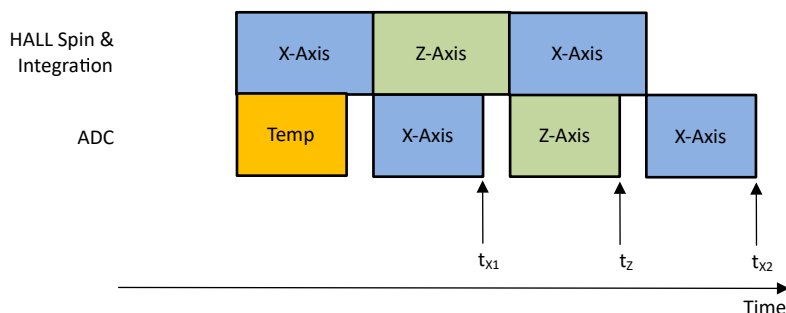

Figure 8-3. XZX Magnetic Field Conversion
In absolute angle measurement, application sensor data from multiple axes are required to calculate an accurate angle. The magnetic field data collected at different times through the same signal chain introduces error in angle calculation. The TMAG3001 offers pseudo-simultaneous sampling data collection modes to eliminate this error. Figure 8-3 shows an example where `MAG_CH_EN` is set at Bh to collect XZX data. Equation 12 shows that the time stamps for the X and Z sensor data are the same.
- t_{x1} , t_z , t_{x2} are time stamps for X, Z, X sensor data completion as defined in Figure 8-3.